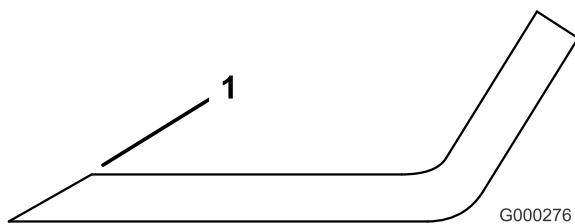

Figure 29
3. Examine the cutting edges of all blades. Sharpen the cutting edges if they are dull or nicked. Sharpen only the top side of the cutting edge and maintain the original cutting angle to ensure sharpness (Figure 29). The blade will remain balanced if the same amount of metal is removed from both cutting edges.